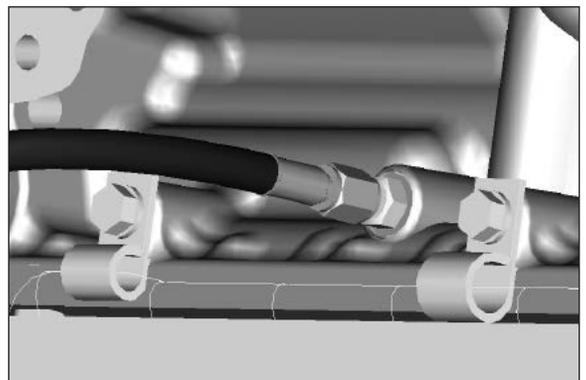

Figure 37
- Using the special fitting (379812) to securely attach the high pressure line to the transmission. This fitting is included with the PTO. Tighten to 8-10 lb-ft [11.0-13.5 N-m] (**Fig. 37**).